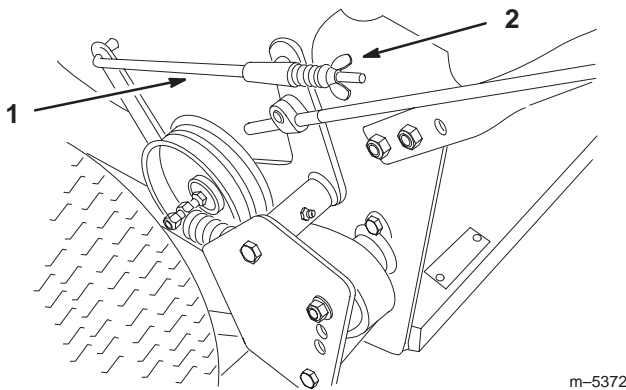

Figure 34
3. To adjust brake, rotate the wing nuts on the brake rods (Fig. 34). Rotate clockwise to tighten the brake and counterclockwise to loosen the brake.